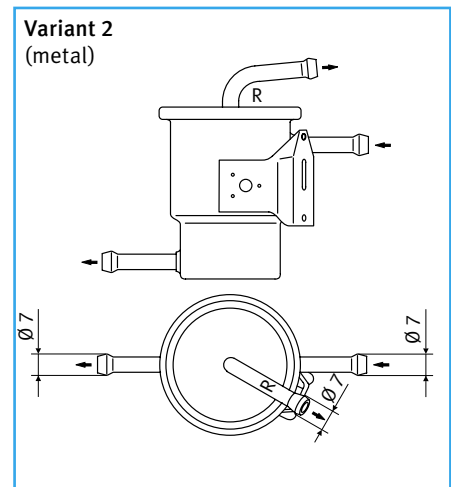

Figure 19 Fuel vapor separator
- **Variant 2** (Figure 19) is largely the same as Variant 1 but is made of metal.